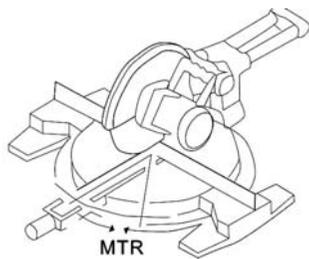

Fig.6
---Set the MTR value on the cutting machine to make a transverse oblique cutting (Fig.6)